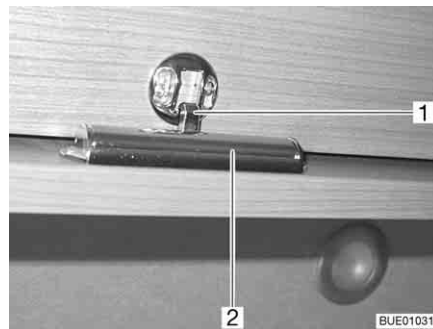

Fig. 50 Furniture flap with push button
- Press inner part of the lock. The push button jumps out (Fig. 50).